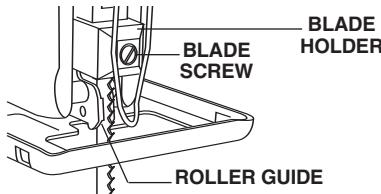

FIG. 3
1. Loosen blade screw in the blade holder and insert blade to full depth with teeth facing in direction of cut as shown in (Fig. 3). For use with both T or U shank jigsaw blades.